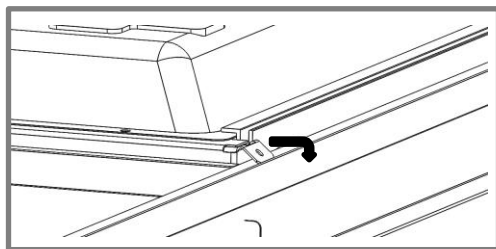

Figure 10.
- Look for the tabs in the corners of the panel and flip them inside out, as shown in figure 10